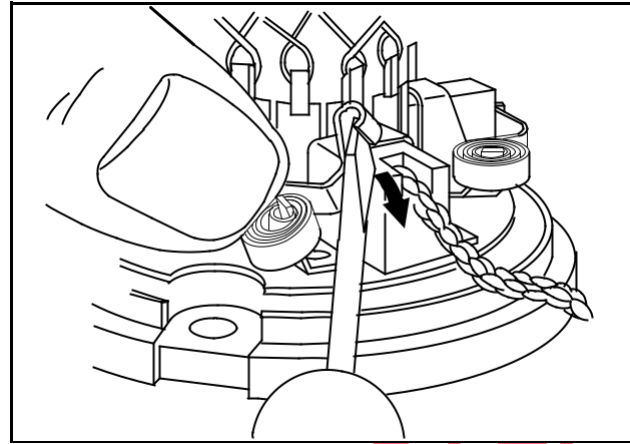

Fig. 31 – Installing Brushes, Flat Coil Spring Type
2. Position coil spring over tab as shown in Fig. 31.
3. While holding spring on tab, use a screwdriver and bend spring counterclockwise and position over end of brush, Fig. 31. Then push spring down firmly over tab.